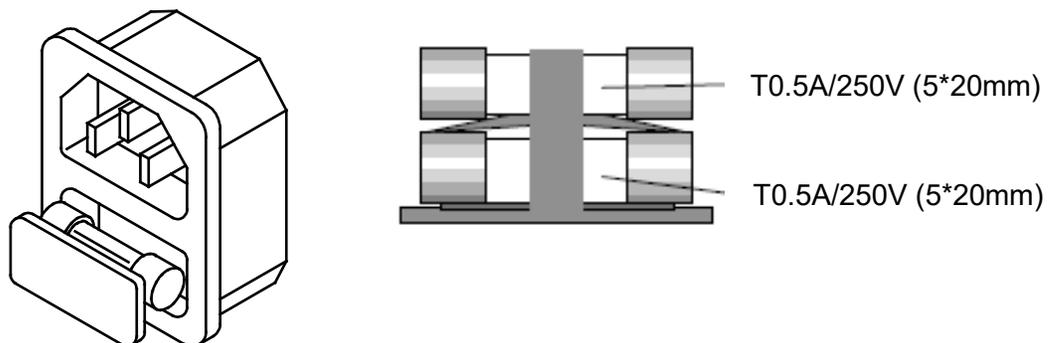

Fig 2-2 4016Series fuse holder
2.3.2. The AC line fuse is located below the AC line receptacle see Fig 2-2. Use a small Screwdriver to extract the fuse holder, to change a new one. Change an appropriate Specifications fuse which indicated in Table 1-1.